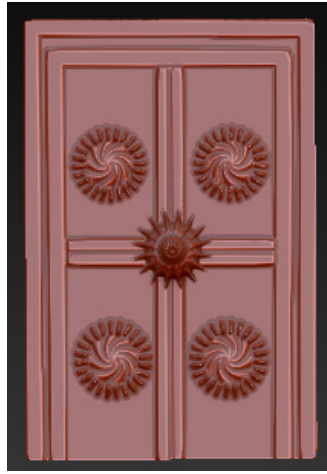

Figure 3-108 Final model of the door
10. Choose the Current Alpha button from the left shelf; a flyout containing different alpha images is displayed. Choose the **Alpha 05** alpha image from this flyout. Next, press and hold the left mouse button and drag the cursor to create a border for the existing pattern; the final door model is created, as shown in Figure 3-108.